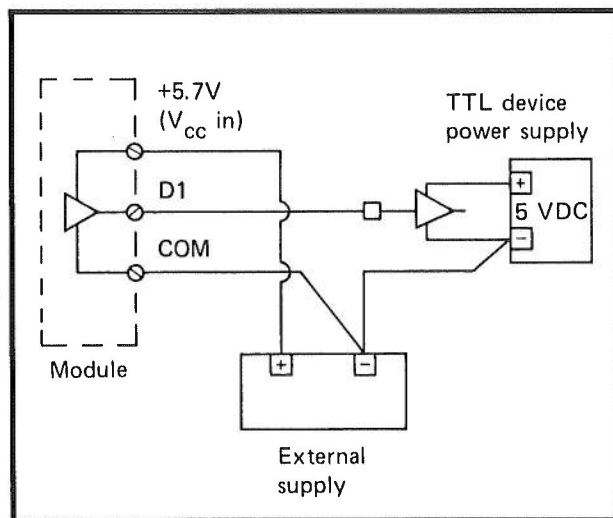
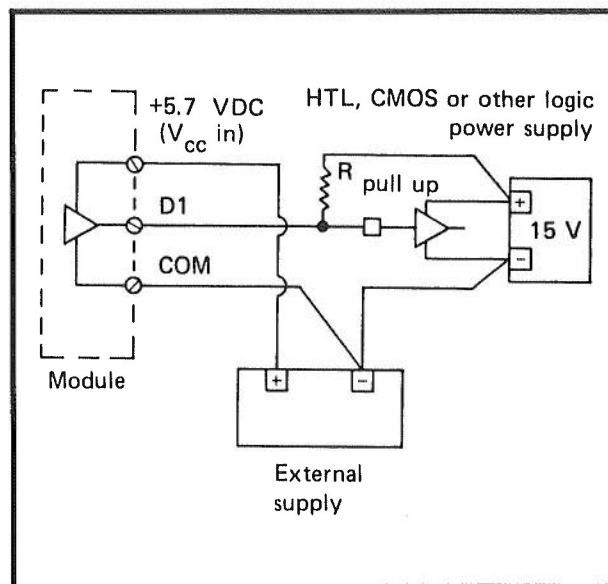

Figure 8 — TTL, LP TTL, LS TTL, CMOS Connections
Figure 9 — 5 to 30 VDC HTL, CMOS Connections
10. A typical connection diagram for TTL, LP TTL, LS TTL and CMOS devices operating at 5 VDC is shown in Figure 8. Typical connections for HTL, CMOS or other devices — such as annunciators or computer inputs — that operate at 5 to 30 VDC are shown in Figure 9. Note that in both Figures the DC common (–) terminal of the external power supply
In Figure 8, if the 5 VDC output device power supply can also provide the additional 450 mA required by the module, the external 5.7 VDC power supply can be eliminated. The + Vcc IN at the +5.7 VDC terminal on the module can connect directly to the + terminal on the output device supply.
In Figure 9, note that the pull-up resistor is used to pull the module's output to a voltage high enough to meet the device's high-level voltage and current input requirements. (A 5K ohm resistor should be adequate for either HTL or CMOS.)